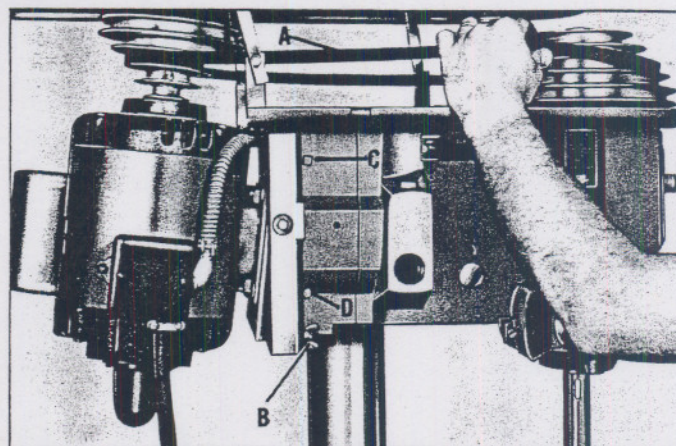

Fig. 8.
1. Raise the belt guard and tighten wing nut (B) Fig. 8.
2. Loosen the two screws (C and D) Fig. 8, and also loosen the screw on the right hand side of the head, which is directly opposite screw (C).
2. Loosen wing nut (B) Fig. 8. The motor will then tilt forward, as shown in Fig. 8, releasing the belt tension.
3. Move the belt (A) Fig. 8, to the desired step on the motor pulley and retighten wing nut (B).